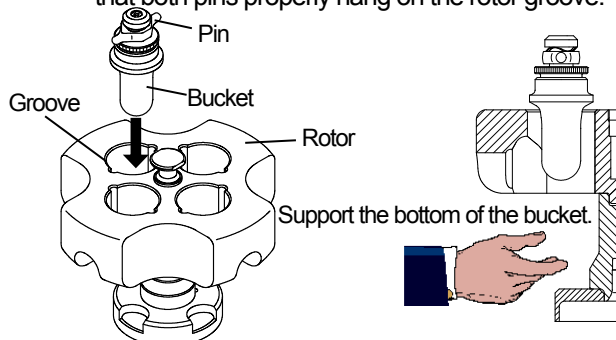

Fig. 3-8 Removing /installing buckets
- 3) Loosen the cap of the bucket. See Fig. 3-8 about removing buckets from the S50ST rotor,